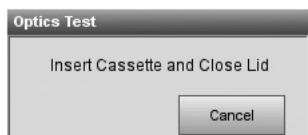

Fig. 8-18 Insert Cassette
- Insert the cassette and close the cover (Fig. 8-18).